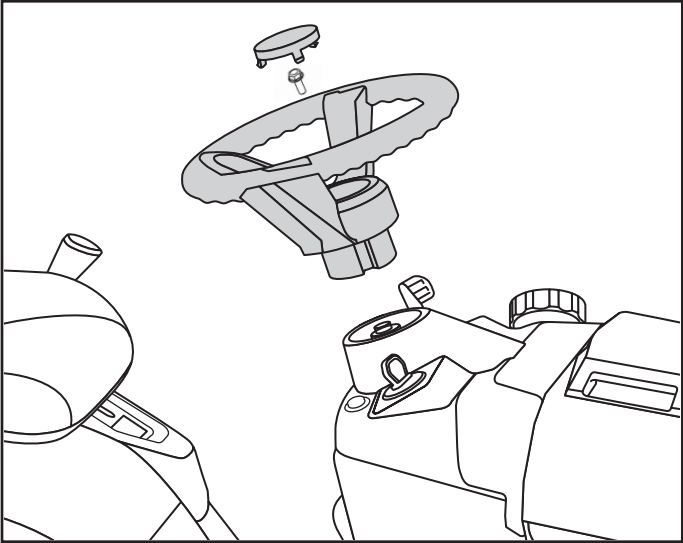

Fig. 4
- 1. Align the steering wheel with the steering shaft, slide the steering wheel down the shaft until into position, and secure the steering wheel with the bolt provided to a torque of 15-19 ft-lbs. (Fig. 4)